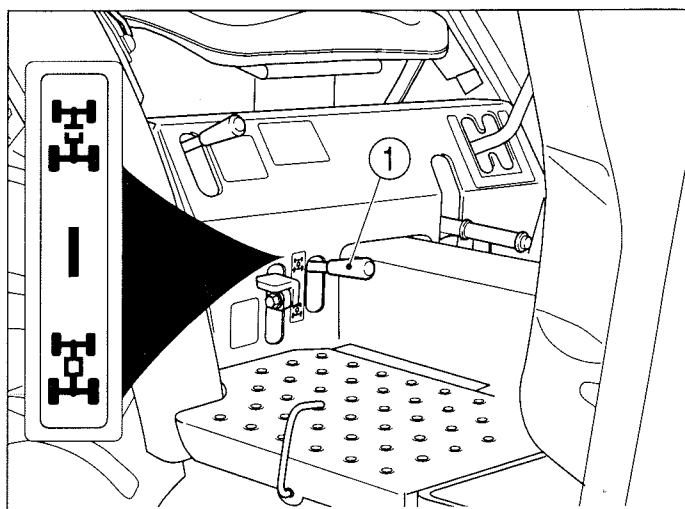

FIG. 44
FIG. 44 & 45: Four-wheel drive models have a mechanically driven front axle. Shift lever (1) engages and disengages drive for the axle. With the lever up, the front axle (4-WD) is disengaged. With the lever down, the front axle is engaged, and power is available to both front and rear axles.